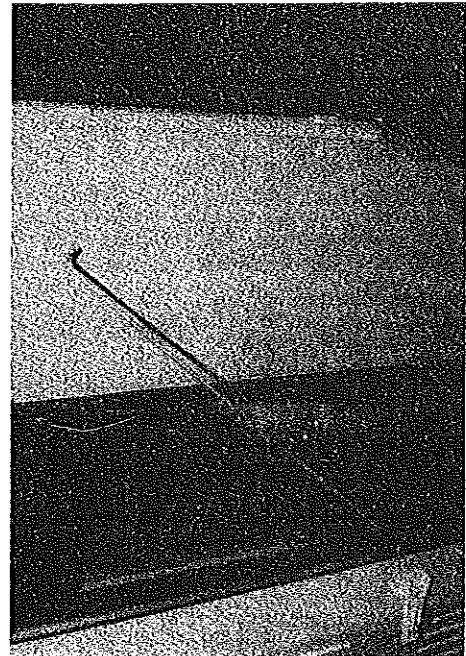

FIGURE 54
2. Lift trunk storage lid. Remove prop rod from retaining brackets located along front rail. Insert free end of prop rod into retainer on trunk lid to hold in the open position. See Figure 54.